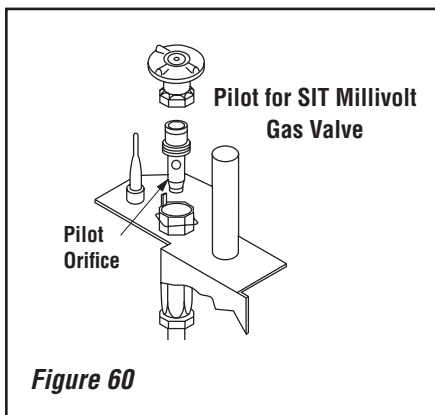

Figure 60
c. Refer to **Figure 60** and remove the pilot hood assembly to access the hexed pilot orifice. Remove and replace the orifice with the one provided with the kit.
Step 6. Refer to **Figure 60** and remove the pilot hood assembly to access the hexed pilot orifice. Remove and replace the orifice with the one provided with the kit.